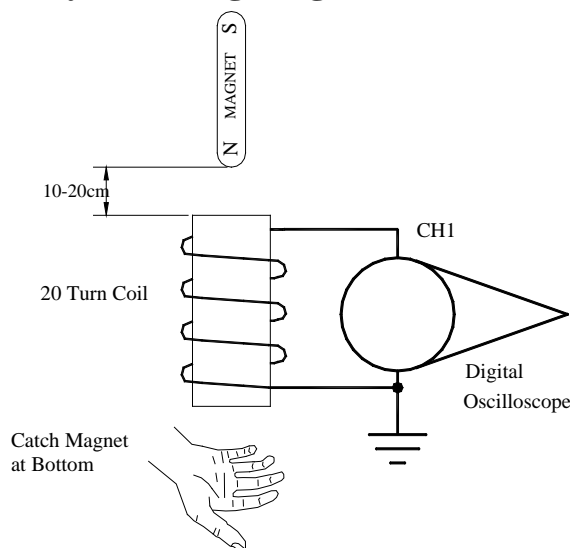

Figure 2 - Diagram showing circuit to measure induced voltage in a coil as a magnet falls through it.
- 2) Connect the 20 turn coil to the digital oscilloscope as shown in Figure 2. Set the oscilloscope to display only CH1. Check that Probe is set to 1X and the Volts/Div is 20mV. Press the Trigger Menu button and set the trigger Type to Edge, the Source to CH1, the Slope to Rising, the Mode to Normal, the Coupling to HF Reject, and the level to about 15mV. These trigger settings will cause the oscilloscope to only capture a trace when there is a change in the coil voltage. You may need to adjust the trigger level to get it to capture a trace. Set the Sec./Div to 25ms.
- 3) Hold the magnet about 10-20 cm above the coil with the north pole facing down as shown in Figure 2. Drop the magnet through the coil catching it with a your hand or a piece of foam rubber. Hopefully the oscilloscope triggered and you have captured a trace. If it looks like the lower curve in Figure 1 press the RUN/STOP button to save it. If it didn't capture a trace you need to adjust the trigger level. Play with the level until you get a trace. (Also make sure the oscilloscope is in RUN not Stop mode!) You also may need to adjust the Volts/Div and Sec./Div